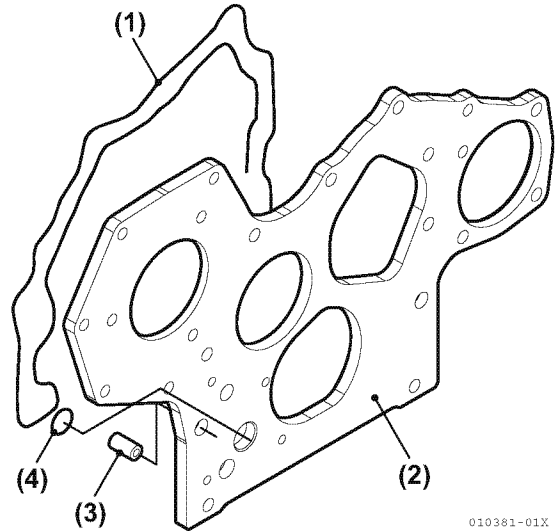

Figure 5-51
45. Remove the gear case from the cylinder block (**Figure 5-51**).
46. Remove the O-rings from the lubricating oil passage (**Figure 5-51**).